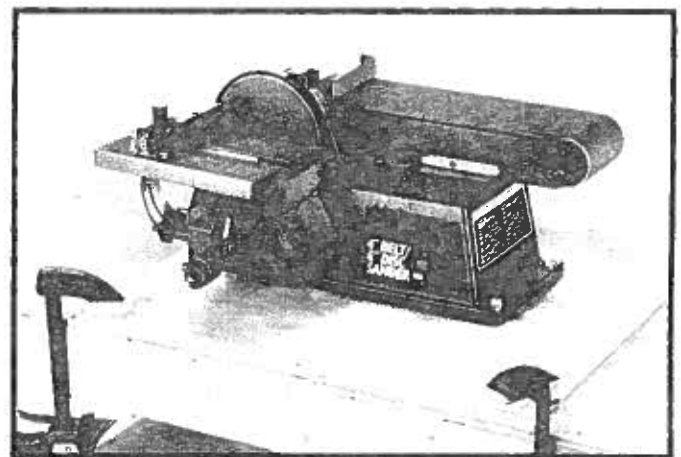

Fig. 18
4. Securely clamp the mounting board to a stand or workbench using 2 or more "C" clamps, as shown in Fig. 18.